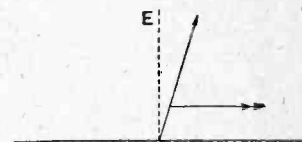
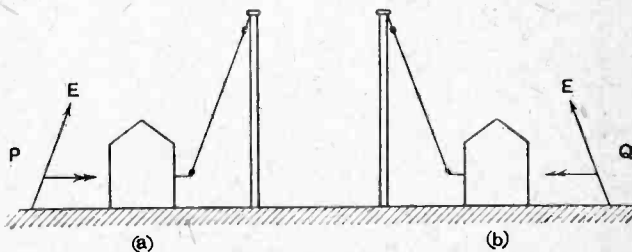

Fig. 3.—Tilting forward of the electric force due to imperfect conductivity of the earth's surface.
Fig. 4.—The E.M.F. induced in an aerial is greatest when the wire is parallel to the direction of the electric field.
In the next stage of the study of wireless waves one appreciates, in some cases very forcibly, that the earth is, after all, not a perfect conductor; in fact, that it is a very bad conductor as compared, for example, with copper. This departure from perfection was shown theoretically by Zenneck to result in a tilting forward of the lines of electric force as the wave is travelling forward in the manner shown in Fig. 3. If this forward tilt of the wave is at all large, it is evident that a vertical aerial will not have such a large E.M.F. induced in it as an aerial which is arranged parallel to the electric force, as in Fig. 4 (a). Further, the direction of the slope of the aerial will depend upon the direction from which the waves are arriving. For instance, a wave arriving from the left (P) will induce a greater E.M.F. in an aerial sloping, as in Fig. 4 (a), than in one arranged as in Fig. 4 (b); while if the wave is approaching from the right (Q), the state of affairs will be reversed.